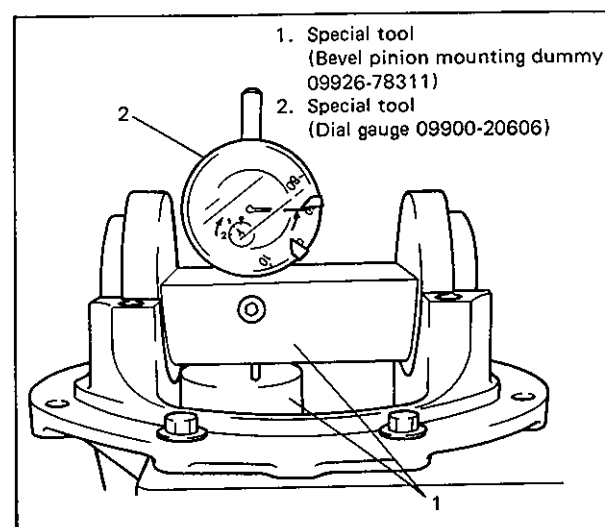

Fig. 7E-32 Measuring Mounting Distance
4. Obtain adjusting shim thickness by using measured value by dial gauge (which represents C in Fig. 7E-29) in following equation.